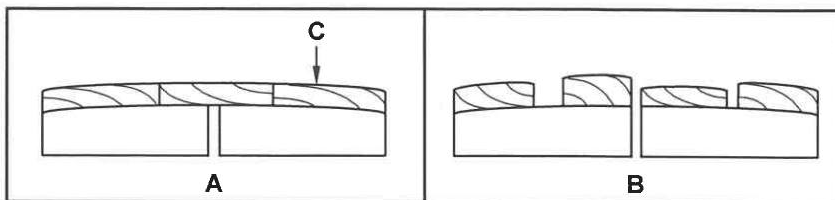

FIGURE 5.2
5.2 FIGURE 5.2 below shows the timber laggings used in centering.